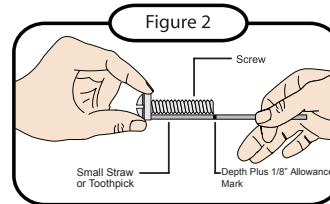

Figure 2
**!** If the screw you selected is longer than the 1/8" allowance mark on the small straw or toothpick, as shown in Figure 2 and Figure 3, do not use this screw. The screw length must not bypass the mark.